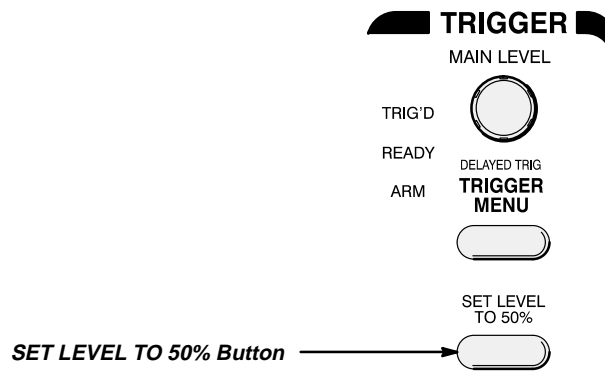

Figure 1-4: Trigger Controls
4. Press **SET LEVEL TO 50%** (see Figure 1-4).